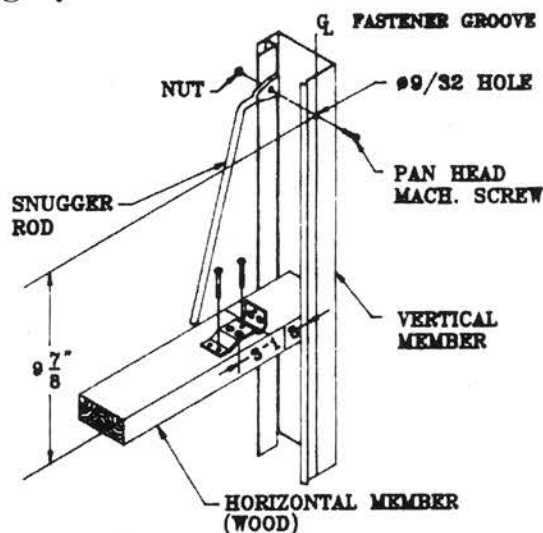

Figure 17
See pages 11 and 12 for other styles of latches available. Select a horizontal door member that is at a convenient height and drill one (1) 9/32" diameter hole in the vertical door member. Refer to Figure 17 for hole location.
Slip rod support on straight end of snugger rod and properly position assembly to determine proper location of rod support. Fasten rod support with 2 ring nails as shown. Slip the large link on the end of the chain over the snugger rod and insert snugger rod into the rod support. Secure the opposite end to vertical member using (1) 1/4" fastener and nut as shown. Figure 17.